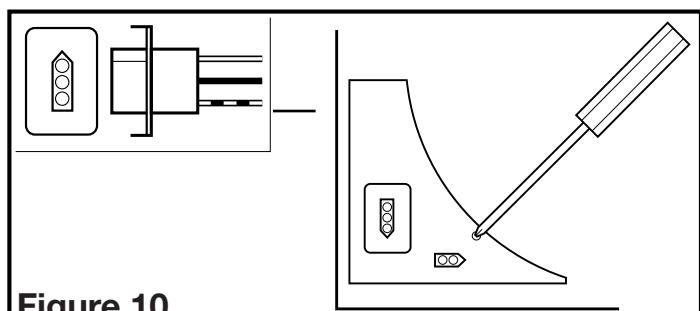

Figure 10
2. Reinstall the fan's wire compartment cover. Rotate the blower wheel by hand to ensure it spins freely. Plug the fan's quick connect motor cord into the receptacle. This cord will only fit one way into the receptacle (**Figure 10**).